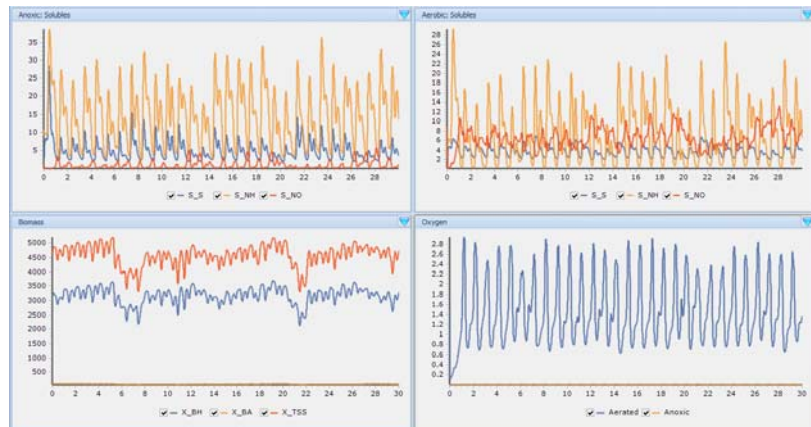

Figure 3.6 Results of the 30-day dynamic simulation of the TwoASU sample
12. Evaluate the results (Figure 3.6).